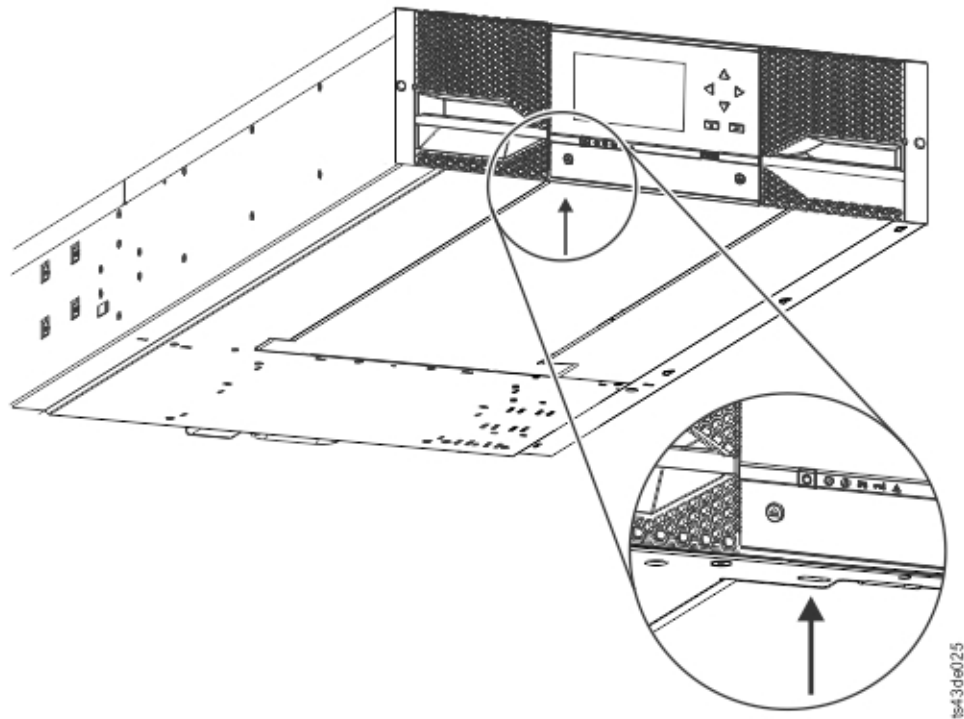

Figure 26. Unlocking the spring loaded lock
- c. Support the bottom cover with one hand. Insert a small flathead screwdriver or Torx screwdriver into the hole and slide about 4 mm sideways to the left to unlock the spring loaded lock. See Figure 26 on page 45.